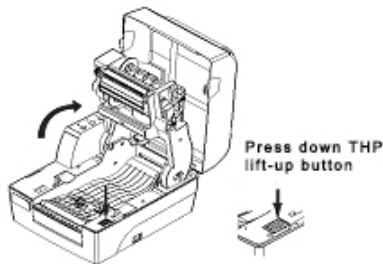

Figure 2.2.2
- 2) Press down TPH lift-up button. After ribbon holder is lifted, turn it at the angle shown as below (stop it until a slight sound “pa” is prompted) (see figure 2.2.2);